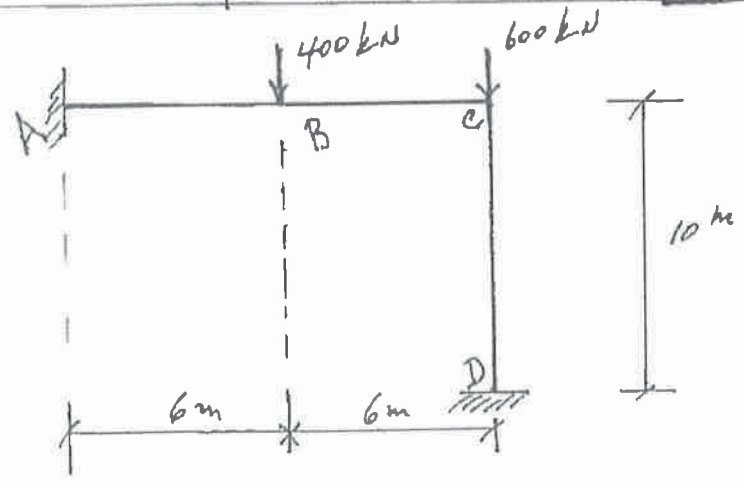

FIGURE 5
6. Figure 5 shows a rigid reinforced concrete frame. Using the Limit States Design Method, design a section for member ABC to satisfy moment and shear. Show the layout of the reinforcing.